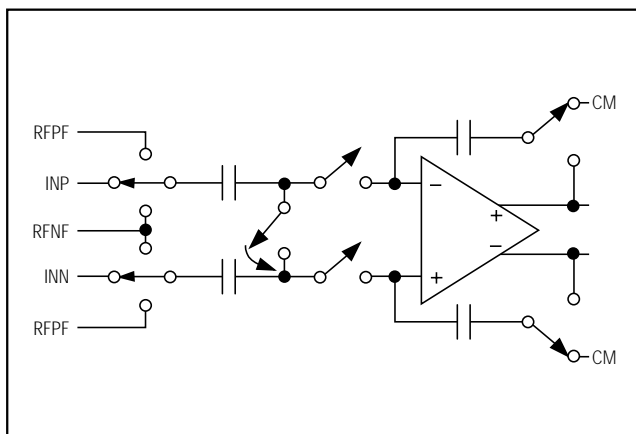

Figure 2. Simplified MDAC Architecture
Fully differential switched-capacitor circuits (SC) are used for both the reference and analog inputs (Figure 2). This allows either single-ended or differential signals to be used in the reference and/or analog signal paths. The signal voltage on these pins (INP, INN, RFP-, RFN-) should never exceed the analog supply rail, AVDD, nor fall below ground.